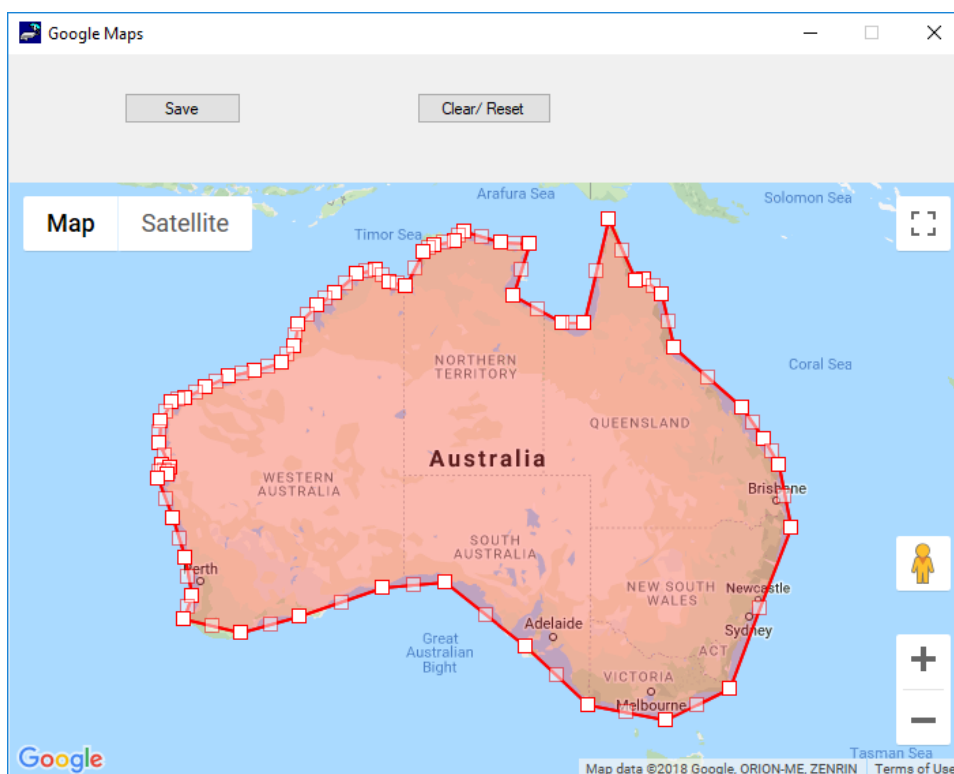

Figure 23: Create/Edit Geofence Window
- **Create Geofence:** Opens a window to create a geofence by adding points on a map. The window is shown in **Figure 23**.